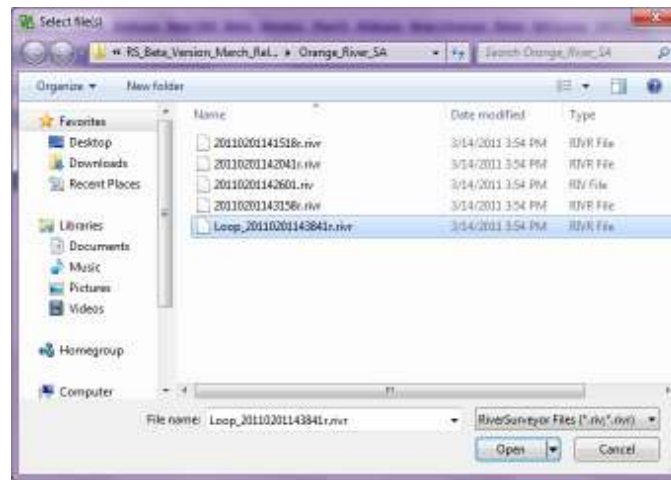

Figure 132. Loop Correction File
- Open the associated Loop Method file by clicking on the **LC** icon located on the top tool bar. Select the appropriate file associated with the regular discharge measurements to be processed. For data collected using firmware v1.50 or later, the loop file name will begin with the word "Loop_" as shown in Figure 132. For loop measurements made with earlier firmware versions, the file name will begin in the same format as the regular discharge measurements. It should be noted, this is the only way you can load a Loop Method file.